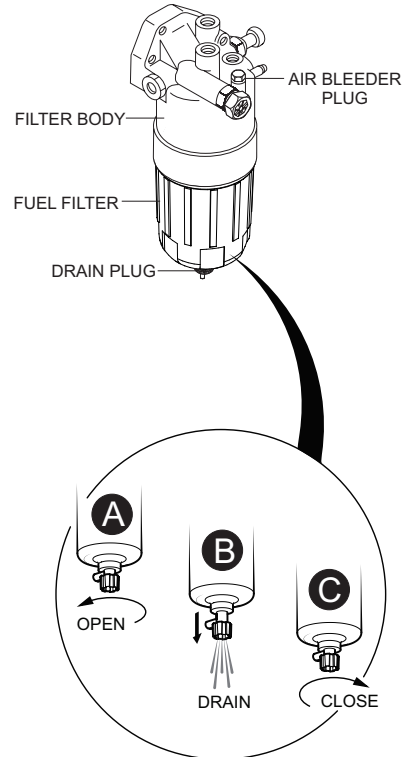

Figure 50. Draining The Fuel Filter
1. Loosen the **air bleeder plug** (Figure 50) on the fuel filter body.